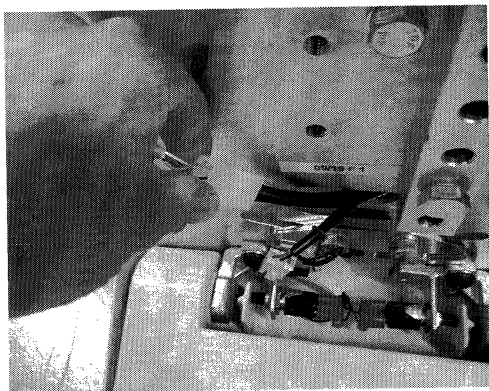

Fig. 2
1. Remove the Footrest Cover (SRE-30039WG) [Fig. 1] and disconnect the 8-pin Carriage Harness from the Seat Harness [Fig. 2].